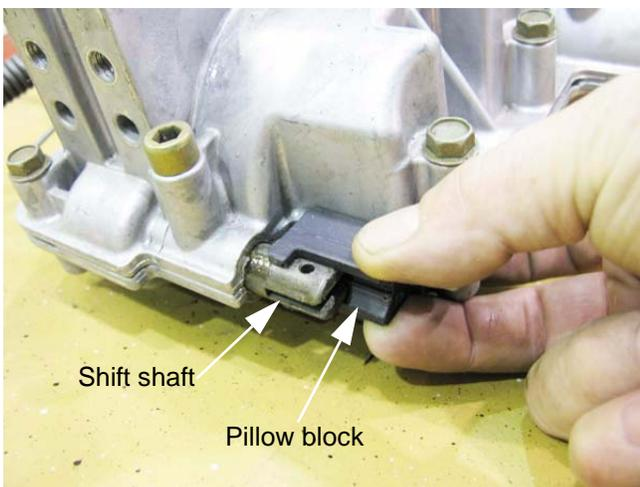

Figure 6.86
3. Slide the shift shaft pillow block off of the shift shaft. See Figure 6.86.